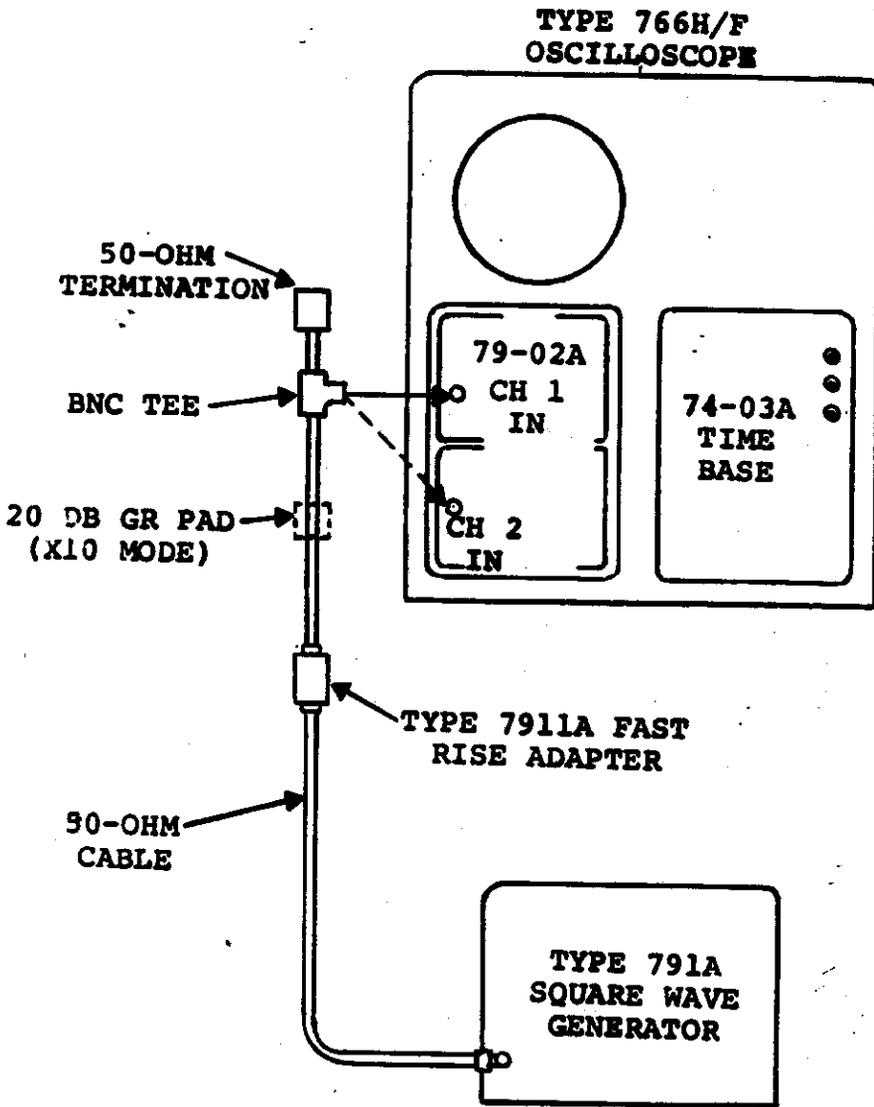

FIGURE 5-2. TEST SETUP FOR ADJUSTING HIGH FREQUENCY TRIMMERS
## 5-15. HIGH FREQUENCY ADJUSTMENTS (Figures 5-2 to 5-4)
1. Connect the output from a Fairchild Type 791A Square Wave Generator through a 50-ohm cable and a Type 7911A Fast Rise Step Generator and BNC Tee terminated in 50-ohm to the CH 1 Input connector on the Type 79-02A plug-in. See Figure 5-2.
6. Disconnect the square wave generator from Channel 1 and connect it to the Channel 2 Input connector. See Figure 5-2.
1. Referring to the test setup shown in Figure 5-2, insert a 20 db General Radio pad between the output of the Type 7911A Generator and to CH 1 Input connector.